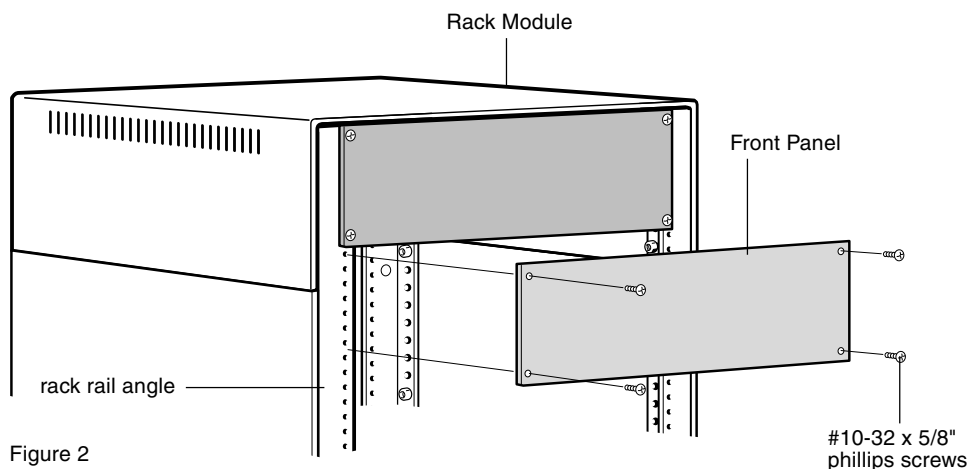

Figure 2
1. At desired location, align holes in front panel with threaded holes at front of rack rail. Fasten to rail with four (4) #10-32 x 5/8" phillips screws and 1/4" ID x 1/2" OD washers (optional) per panel from the hardware packs noted above. (Figure 2)